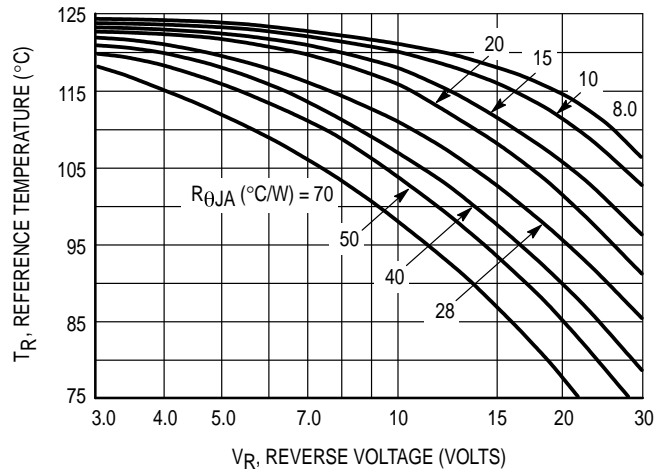

Figure 2. Maximum Reference Temperature
Step 2. Find T_R from Figure 2. Read T_R = 108°C